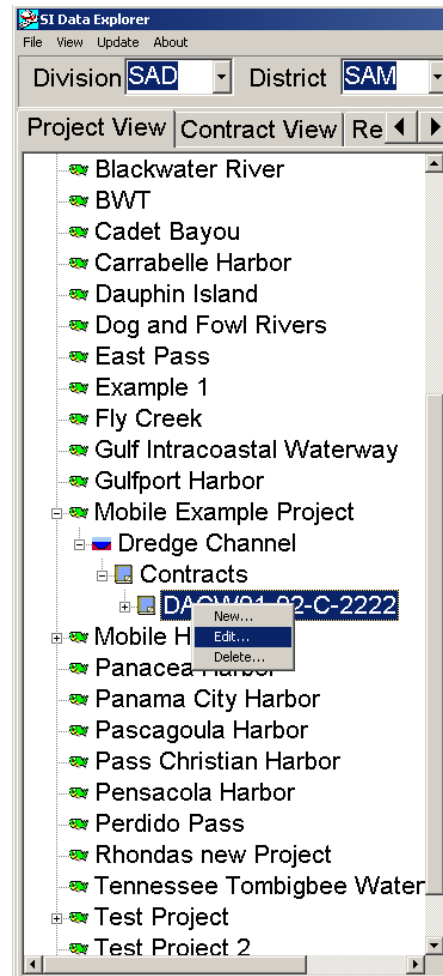

Figure 1.12 Editing a contract
1. Right click on the contract as seen in Figure 1.12.